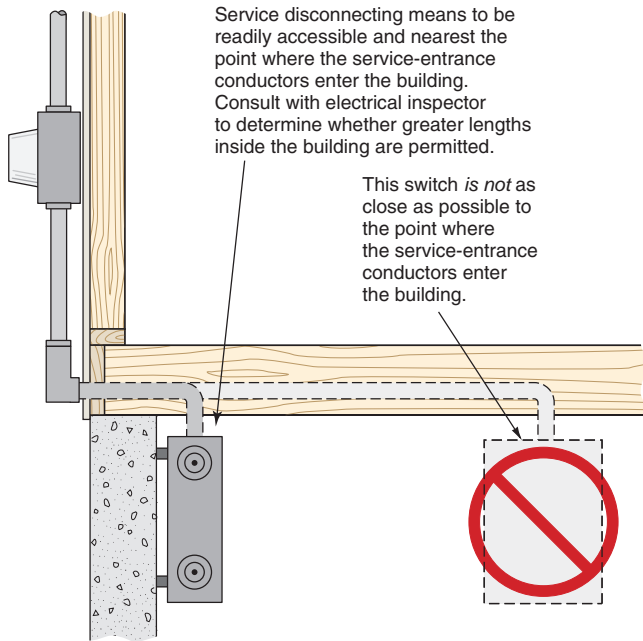

FIGURE 27-11 Main service disconnect location, 230.70. Do not install in a bathroom. Refer to 230.70(A)(2) and 240.24(E). (Delmar/Cengage Learning)
- be located inside the building at a readily accessible location nearest the point of entrance of the service conductors, Figure 27-11, or
Figure 27-7 shows a service supplied from an underground service. Figure 27-11 discusses the requirement that the main disconnect must be as close as possible to the point of entrance of the